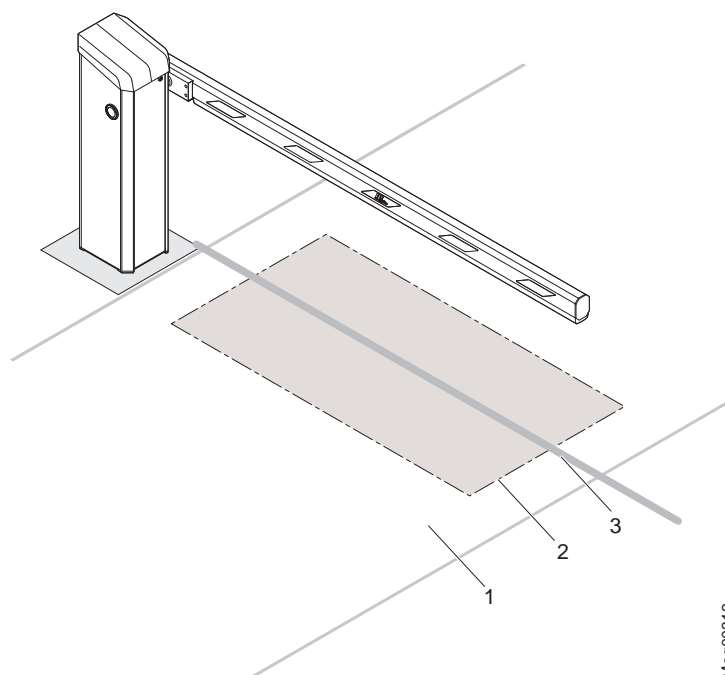

Fig. 18: Arrangement example of an induction loop for passenger car operation
- The clearance of the safety loop for passenger cars in front of, and behind the barrier boom must be at least 500 mm. The safety loop for lorries must be dimensioned larger. → See also page 52, Fig. 18.